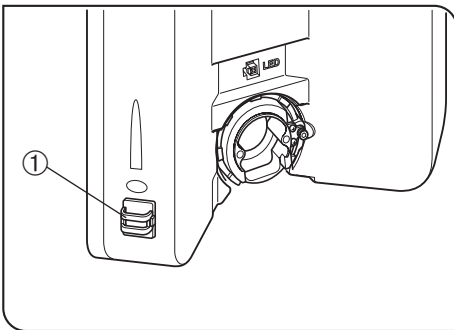

Fig. 44
4 Attaching the Halogen Lamp Socket (Fig. 44)
Installing the U-LS30ADP LS30 Adapter (Fig. 44)
- 4 Pass the lamp cable through the cable holder ① (Fig. 44).